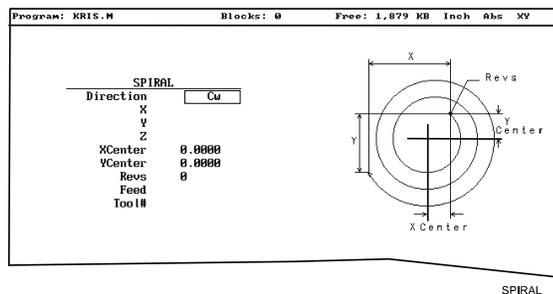

Figure 5-28, SPIRAL Graphic Menu
3. Highlight **Spiral**, and press **ENTER**. The **SPIRAL** Graphic Menu prompts for labeled values. Refer to **Figure 5-28**.